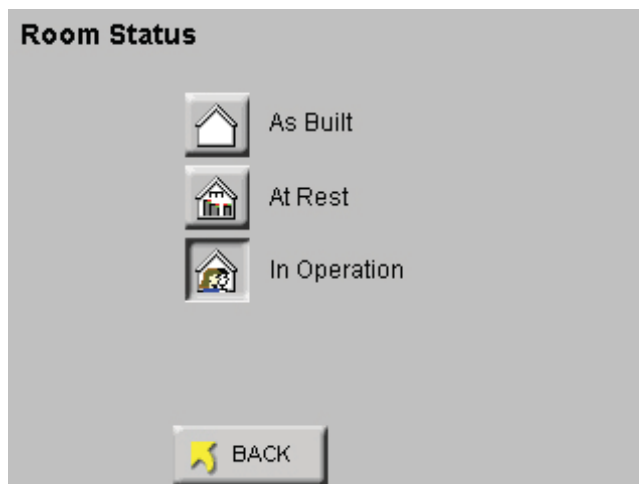

Figure 6-86 Reports Room Status Screen
- Press the STATUS button to display screen shown in Figure 6-86.